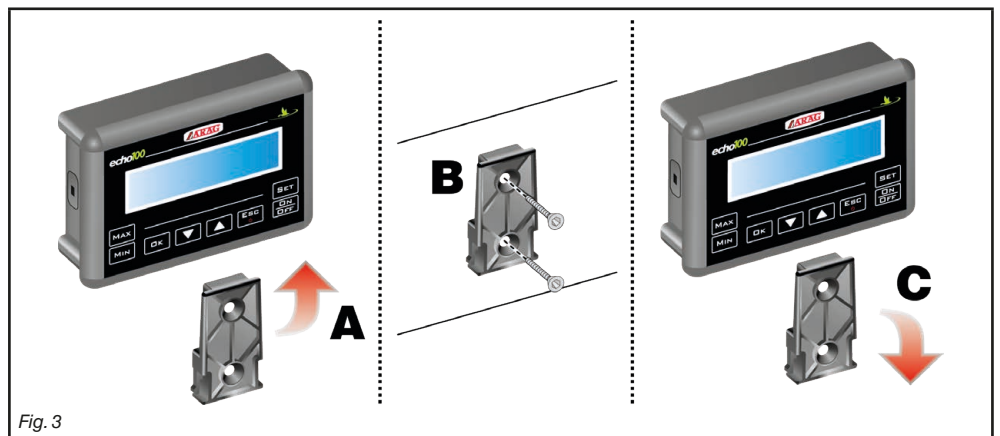

Fig. 3
The bracket must be slid out of the device seat (A, Fig. 3) and fixed using the supplied screws (B).